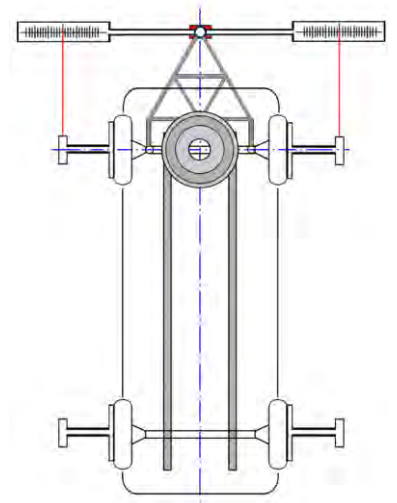

Fig. 25
- Direct each of the laser measuring heads on the left and right at the toe scales on the drawbar. (Fig. 25)